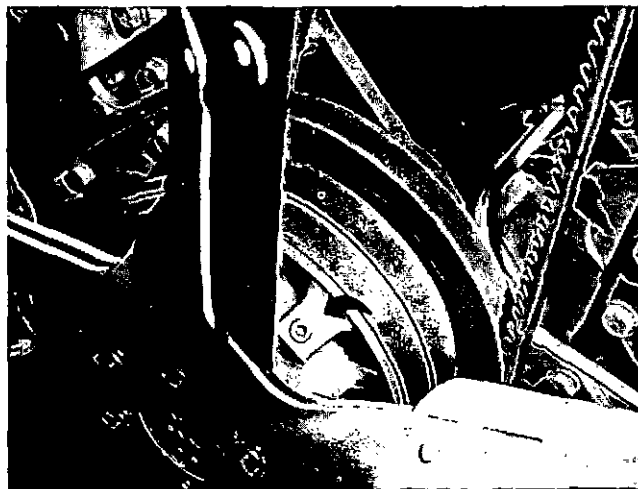

Fig. 5-21, V11906. Fan hub lubrication point
2. Remove pipe plug(s) from fan hub and water pump, install grease fitting and lubricate; give one "shot" (approx. 1 tablespoon) each "C" check. Figs. 5-21 and 5-22. After fan hub is lubricated, remove grease fitting and install both pipe plugs removed.